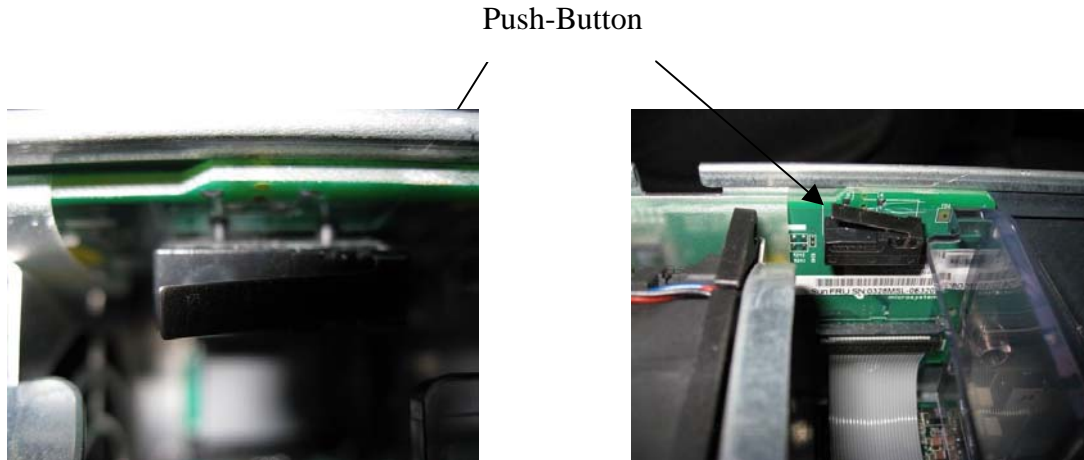

Figure 40 : SUN SF V245 Push-Button
- On the right of the computer box, knock out the black push button carefully if it isn't straight or if it doesn't lean against the green card like on the Figure 40.